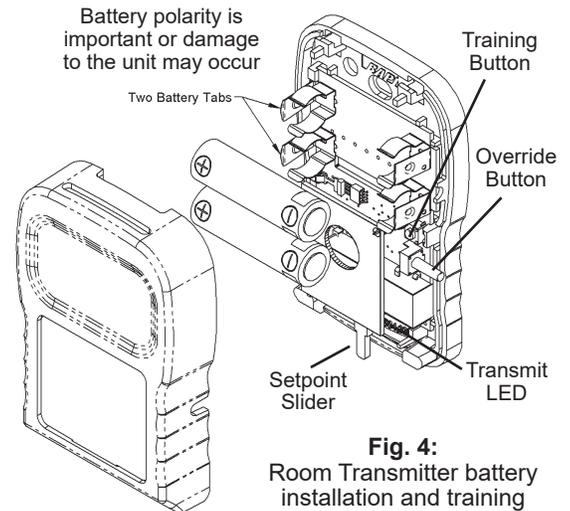
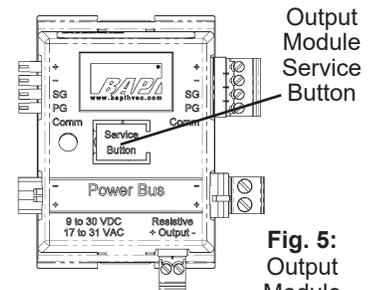

Fig. 4:
Fig. 5:
3. Remove the cover of the room transmitter and remove the battery tabs or install the batteries, observing polarity as shown in Fig 4. The "transmit LED" will flash about once every 20 seconds, indicating a transmission. (The flash is very quick.)
4. Press and hold down the "Service Button" on the top of the output module (Fig 5) that you wish to train. Then, press and release the "training button" (see Fig 4) on the transmitter. When the output module receives the "training transmission" from the transmitter, the output module's red LED will light steady. Release the "Service Button" on the output module and the red LED will go out. The transmitter and output module are now trained to each other. During normal operation, the output module's LED will flash about once every 20 seconds indicating data reception from the transmitter trained to it.
4. Press and hold down the "Service Button" on the top of the output module (Fig 5). Then, press and release the OVERRIDE button on the transmitter (See Fig 4). (Note: If the unit was not ordered with an override function, then the OVERRIDE button will be shorter and will not extend outside the case but will still be accessible upon removing the
3. Remove the room transmitter cover and remove the battery tabs or install the batteries, observing polarity as shown in Fig 4. The "transmit LED" will flash about once every 20 seconds, indicating a transmission. (The flash is very quick.)
3. Remove the room transmitter cover and remove the battery tabs or install the batteries, observing polarity as shown in Fig 4. The small LED at the bottom right of the circuit board, next to the setpoint, will flash approximately once every 20 seconds indicating a transmission. (The flash is very quick.)
4. Press and hold down the “Service Button” on the top of the Voltage Output Module. Then, press and release the OVERRIDE button on the room transmitter (See. Fig 4). When the output module receives the “Training Override” info from the room transmitter, the output module’s red LED will light. Release the “Service Button” on the output module and the red LED will go out. This output module is now trained to the override function on the room transmitter Pressing the override button on the room transmitter will cause the Voltage Output Module output to go to 0 Volts for 5 seconds.
3. Remove the room transmitter cover and remove the battery tabs or install the batteries, observing polarity as shown in Fig 4. The small LED at the bottom right of the circuit board, next to the setpoint (see Fig 4), will flash approximately once every 20 seconds indicating a transmission. (The flash is very quick.)
4. Press and hold down the “Service Button” on the Relay Output Module (Fig 5). Then, press and release the OVERRIDE button on the room transmitter. When the output module receives the “Training Override” info from the room transmitter, the output module’s red LED will light. Release the “Service Button” on the output module and the red LED will go out. This Relay Output Module is now trained to the override function on the room transmitter.